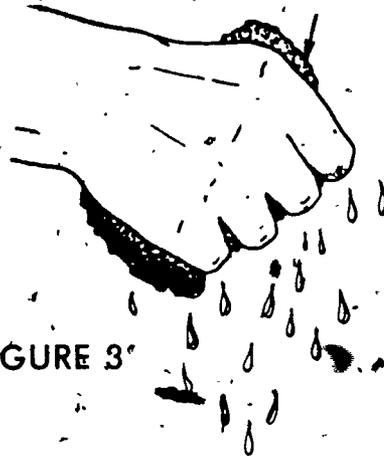

FIGURE 3
- e. Squeeze the excess oil from the filter element (Figure 3)